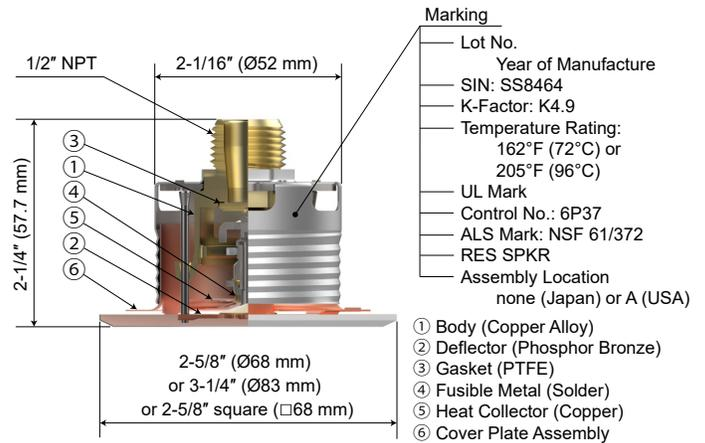

Figure 1: Model RC-RES K = 4.9
• Physical Characteristics: Ref. Figures 1 and 1.1